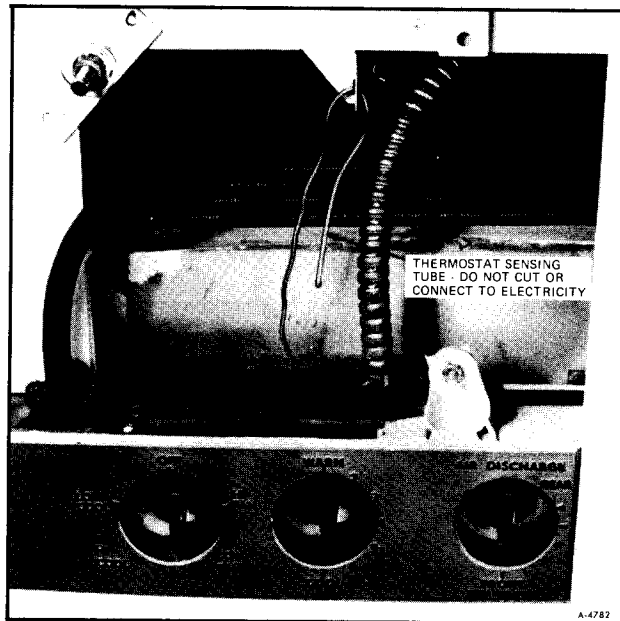

Figure 12—Thermostat Sensing Tube (Typical)
c. Thermostat (figure 12).	<p>c. The thermostat will open around 70°F. (21.1°C.) so be sure the temperature is warmer than 70°F. (21.1°C.) before checking the power out. If power is available at the black wire terminal, there should be power out of the terminals for each switch position. Power should be received in all cooling positions. With the power off and the leads disconnected, check the switch for continuity with an ohmmeter or self-powered test light. For a positive continuity check of the thermostat, put the sensing probe in warm water (100°F.) (37.8°C.) and check for a closed circuit. Then check for an open circuit at all dial settings with the tube in cold water (50°F.) (10°C.).</p>